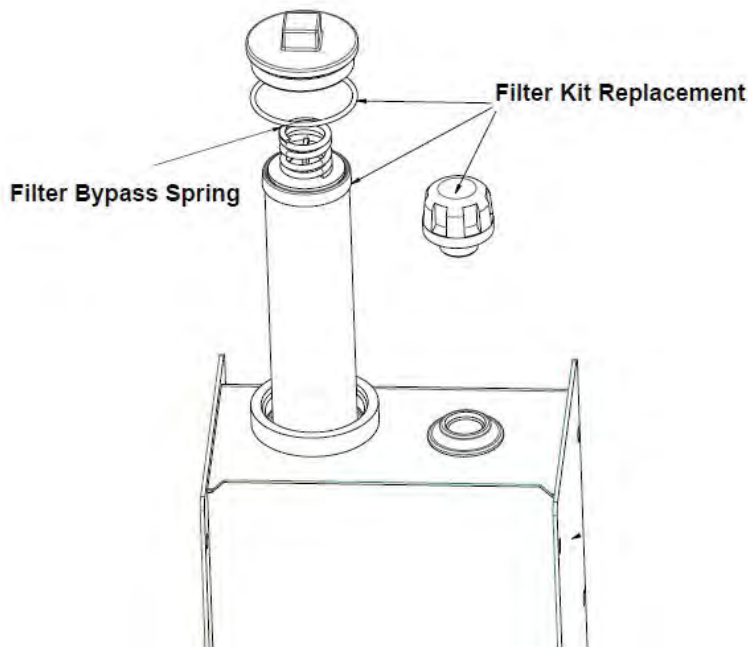

Figure 5A Filter Replacement
4. Withdraw the old filter and replace it with the new filter and place the bypass spring and O-ring seal as shown in Figure 5A and tighten the filter cap. The torque required to tighten the filter cap is around 75 to 85 ft-lbs.